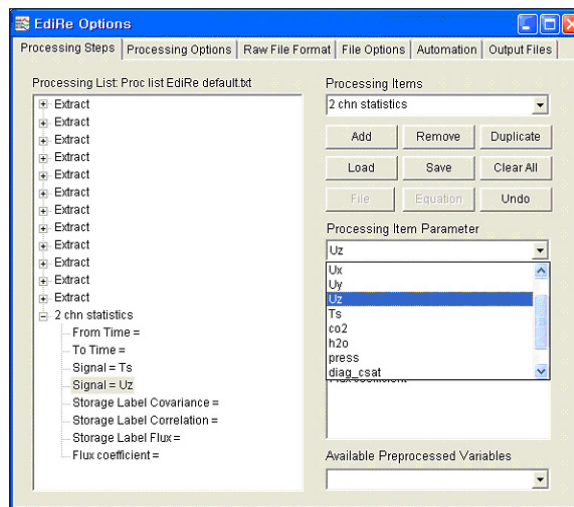

Figure 8: The "+" has been clicked to expand the processing options.
18. Using the “Processing Item Parameter” pull-down list, select the appropriate values for the “Signal” parameters (see Figure 8). The values selected for Signal’s are the raw values that will be used for computation. The available values from the “Processing Item Parameter” list will have the same variable names that you used on the datalogger program to store the raw data.